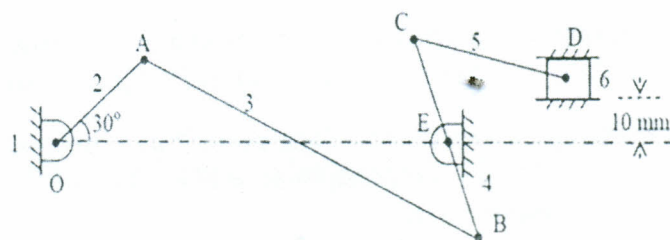

Fig. 3
- Q.4A For a mechanism in **Figure 3**, crank OA rotates at 100 rpm clockwise using instantaneous centers (I.C) method determine the linear velocities of points B, C, D and angular velocities of links AB, BC and CD. 10